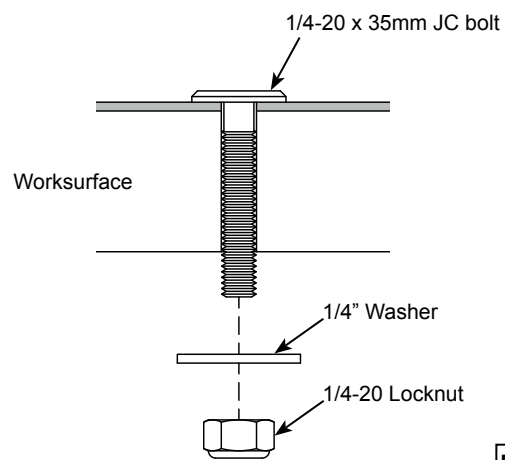

Figure 2B
2. Place a 1/4-20 x 35mm JC Bolt in each hole, followed by a washer and a locknut. **Figure 2B.**